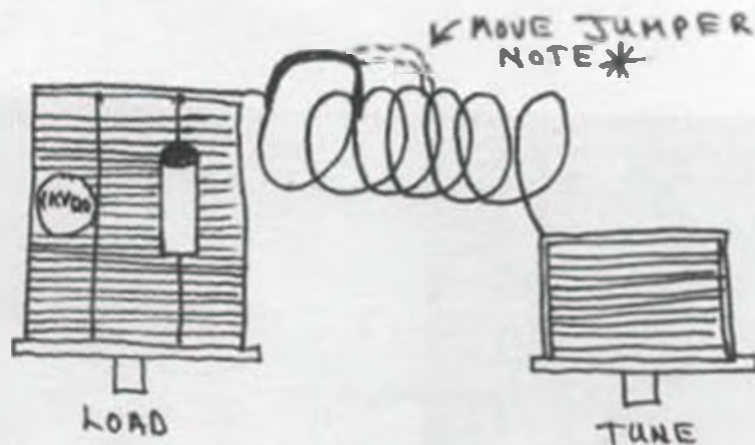

Fig. 3
3. In between the Tune and Load controls is the Output Coil. If you are facing the unit, from the left end of the coil, there is a piece of silver wire soldered to the end of the coil and to the third turn (counting from left to right). Unsolder it at the third turn and re-solder it to the fifth turn (Fig. 3).